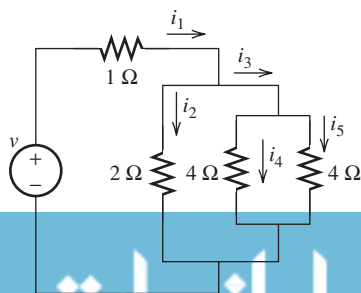

FIGURE P3.19 Circuit for Problem 3.19.
3.19 (A)* Find $i_1, i_2, i_3,$ and i_4 in Figure P3.19 supposing $i_5 = 2$ A.
3.20 (H) Find $i_2, i_3, i_4,$ and i_5 in Figure P3.19 assuming $i_1(t) = 4 \cos t$ A.